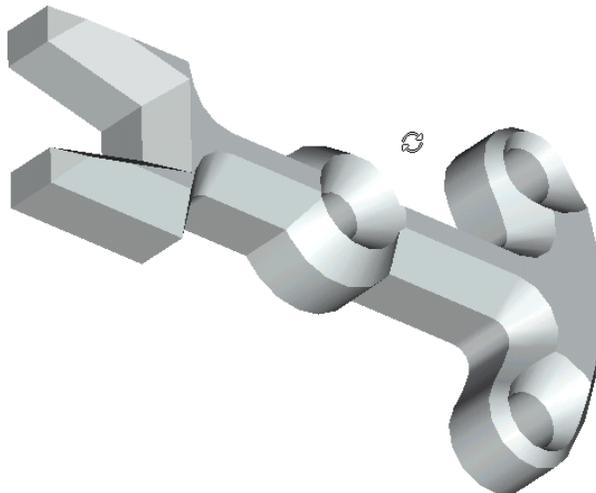

Figure 4-40 Rotating the view to display the model from different directions
- d. Rotate the view using the **Rotate View** tool to view the model from all the directions, refer to Figure 4-40.
2. Press and hold down the left mouse button and drag the cursor on the screen to rotate the view as shown in Figure 4-40.